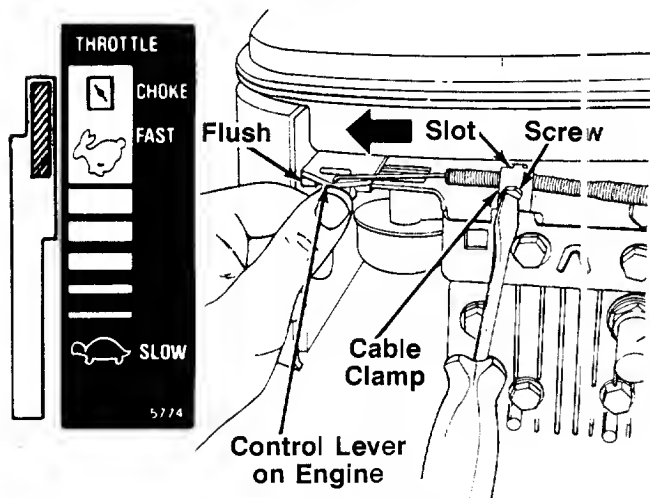

FIGURE 6C.—Models 286R and 289R
1. Push the throttle control lever on the handle all the way forward to **CHOKE** position. See figure 6C.
2. The throttle control cable is attached to the upper handle. Route the throttle control cable under the lower handle and inside the handle mounting bracket. Hook the "Z" end of the throttle control cable into the hole in the control lever on the engine. See figure 6C.
3. Using a 5/16" wrench or nutdriver, remove the screw on the cable clamp shown in figure 6C. Slip the control casing under the clamp. Replace the screw (cable should be above the screw), but do not tighten (cable must still move freely beneath the clamp). Make certain the tab on the cable clamp is seated into the slot on the engine.
4. Push the control lever on the engine as far toward the outside of the engine as it will go. The edge of the control lever should be **flush** with the bracket on the engine. See figure 6C. Hold the control lever in this position as you tighten the screw on the cable clamp to secure the throttle cable.